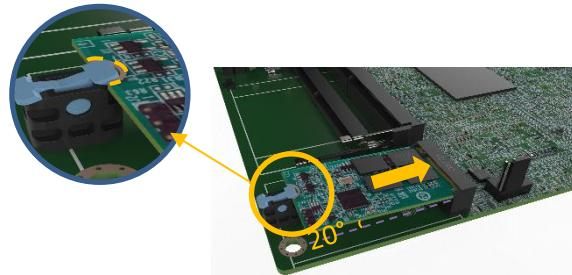

Figure 4-5: Securing the M.2 Module
- Step 5:** Press the M.2 module down until it is secured into place by the retainer. (See **Figure 4-5**)